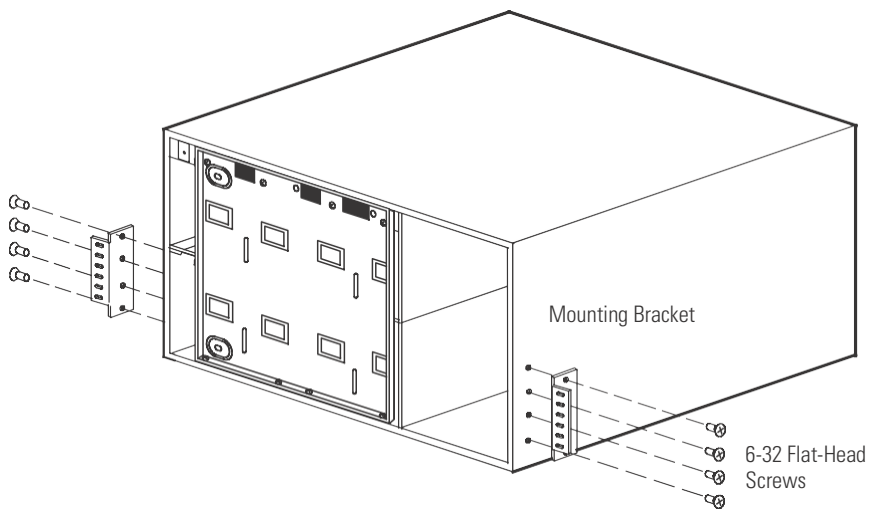

Figure 51. Installing the UPS Mounting Brackets
11. If the mounting brackets are not already installed, align the two mounting brackets with the screw holes on the sides of the UPS and secure with the supplied 6-32 flat-head screws (see Figure 51).